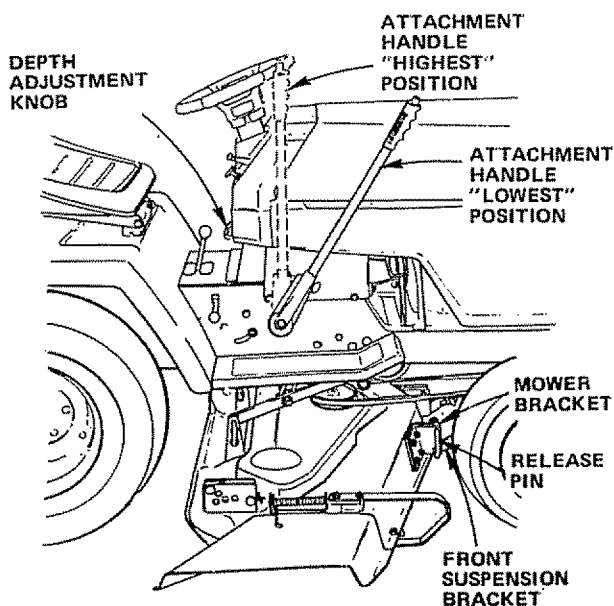

FIGURE 12
3. Slide Front Suspension Brackets into Mower Brackets. Retain with Release Pins (Fig. 12). Turn Depth Adjustment Knob counterclockwise (↺) until it stops. Push Attachment Handle forward to lower mower to ground.
6. Turn Depth Adjustment Knob (Fig. 12) clockwise (↻) to remove slack from Mower Suspension.